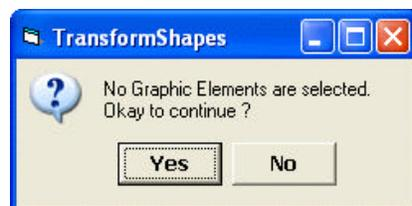

Figure 6 - Selection Of Graphics
- Click at the *Transformation*  tool to display the choice list box of Figure 2, scroll down, select the *Transform Features* option, and then click at the *OK* button to display the query box of Figure 6.
- Click at the *Yes* button to display the dialog box of Figure 6.